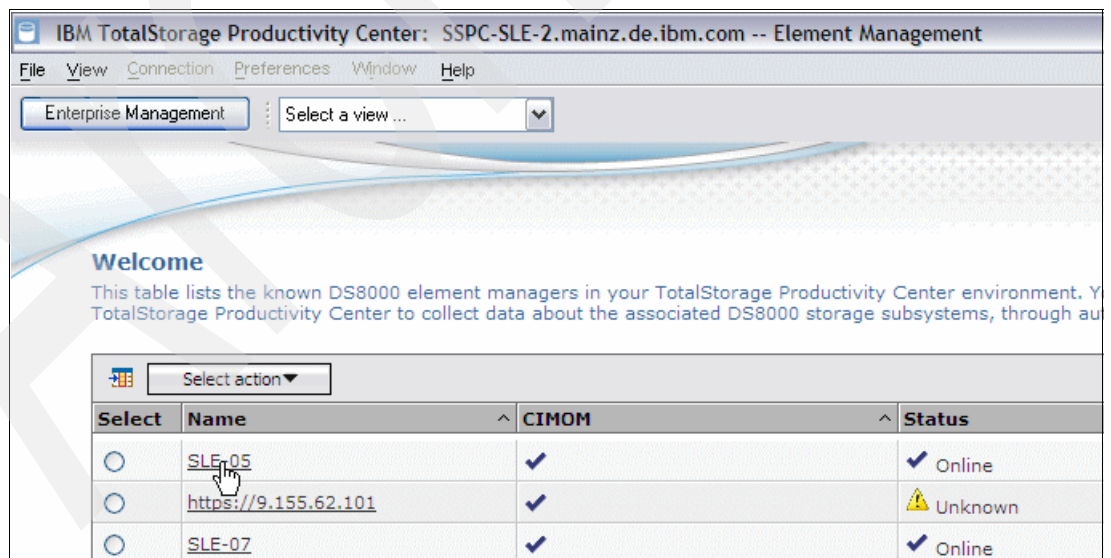

Figure 9-4 TPC GUI Element Management window
- The Element Management of TPC GUI displays. Click one of the DS8000 machines to access its DS Storage Manager GUI (see Figure 9-4).